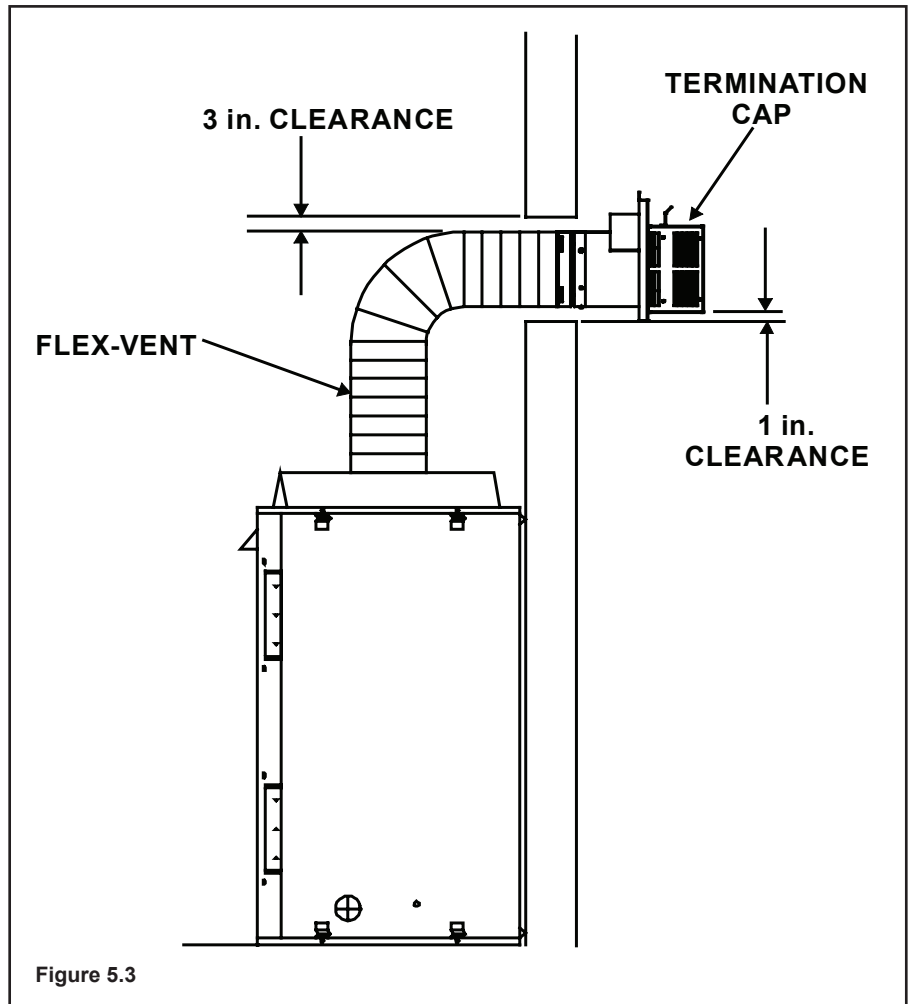

Figure 5.3
A support is required at each change in venting direction, and in any location where it is necessary to maintain the necessary clearance to combustibles. A simple "up and out" installation (Figure 5.3) requires only enough support to maintain the necessary clearance to combustibles. However, the vent attachment point and the firestop location are considered to be supports.
**NOTE:** There **MUST** be a 25% reduction in total H when using flex vent except when using the simple up and out installation (see Figure 5.3).